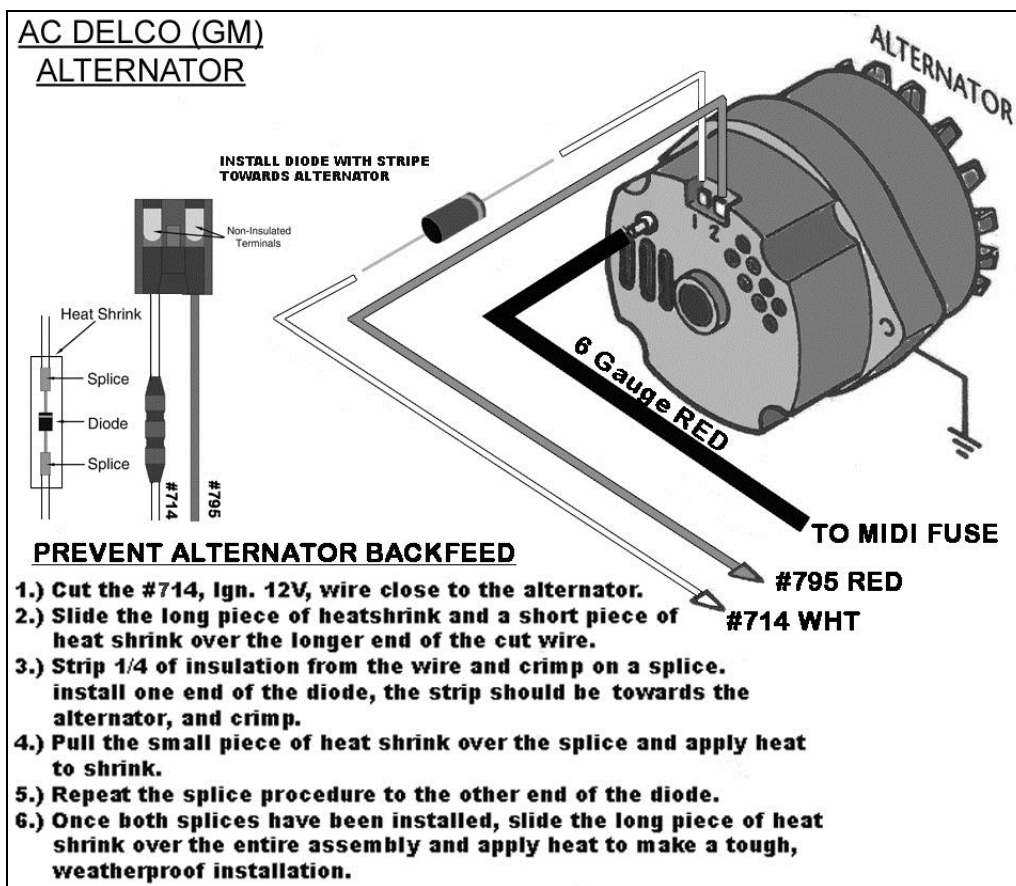

Figure 8.4 Delco Alternator (Internal Regulator)
8.2.2 Delco Alternator – Internal Regulator. See Figure 8.4.
- G. A 14-gauge wire connected from the Starter Solenoid Ignition (I) terminal to the ignition coil side of the Ballast Resistor is optional. This wire (in **Figure 8.4**) serves as a Ballast Resistor BYPASS during engine starting. However, if the starter solenoid shorts out, which is not unusual, the engine will stop running and will not restart as long as this wire is connected. You may therefore choose to omit it. If you are not using a Ballast Resistor, leave the Starter Solenoid Ignition (I) terminal unconnected and do not install the bypass wire.